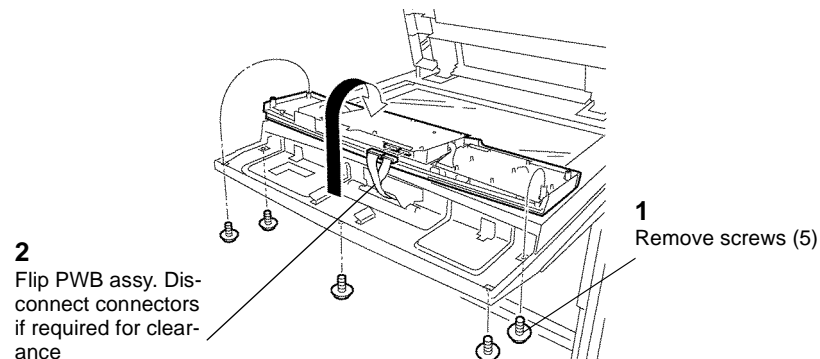

Figure 1 Removing the Control Panel
2. Remove the Control Panel (Figure 1).